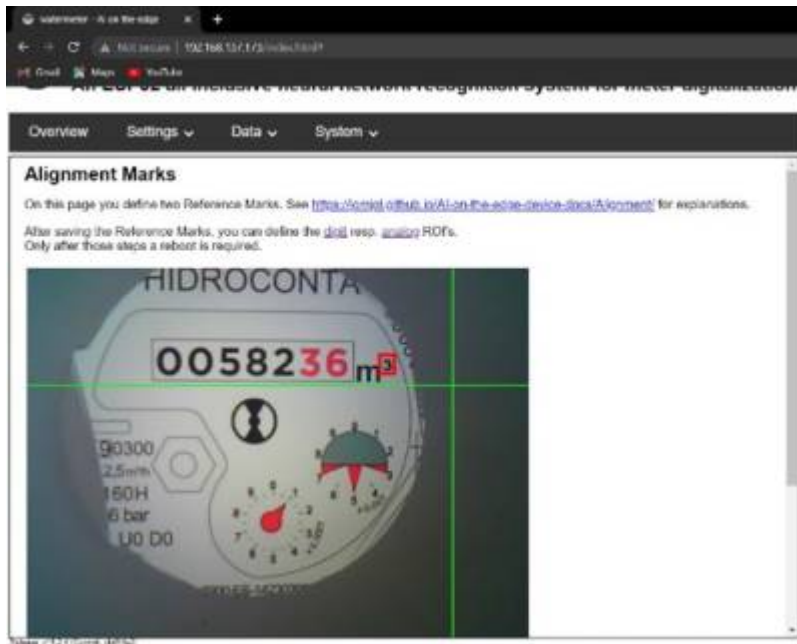
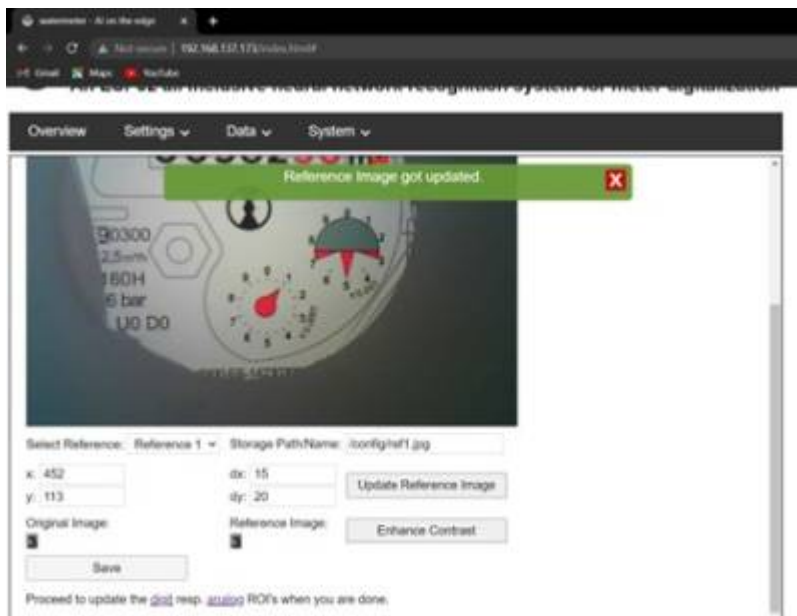

Fig 12: Creating Alignment marks. Source: own image- Shreevarshan
Fig 13: Updating the reference. Source: own image - Shreevarshan
- The next step was to create the alignment marks, in this case used was " m3 " from the image provided as reference(Fig 12) and click on the update reference image and then save, so this process is updated (Fig 13).